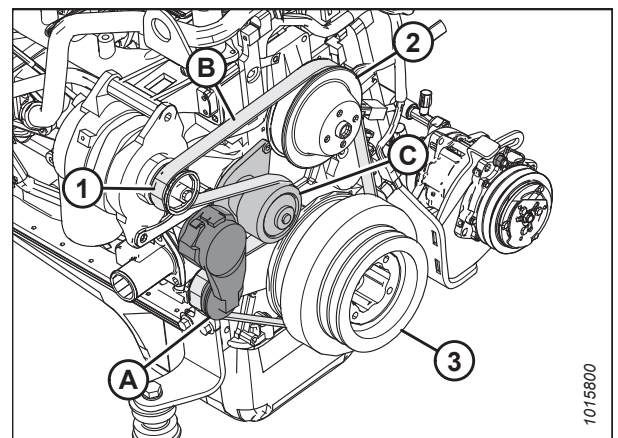

Figure 5.180: Engine Belt
5. Insert the drive end of a 1/2 in. drive ratchet wrench into belt tensioner (A).
6. Rotate tensioner counterclockwise until fan belt (B) can be slipped off pulley (C). Release the tensioner and remove the wrench.
7. Remove the belt in order 1, 2, 3, as shown in Figure 5.180, page 443.
8. Insert the drive end of a 1/2 in. drive ratchet wrench into belt tensioner (A).
9. Rotate the tensioner counterclockwise until belt (B) can be slipped onto pulley (C). Release the tensioner and remove the wrench.